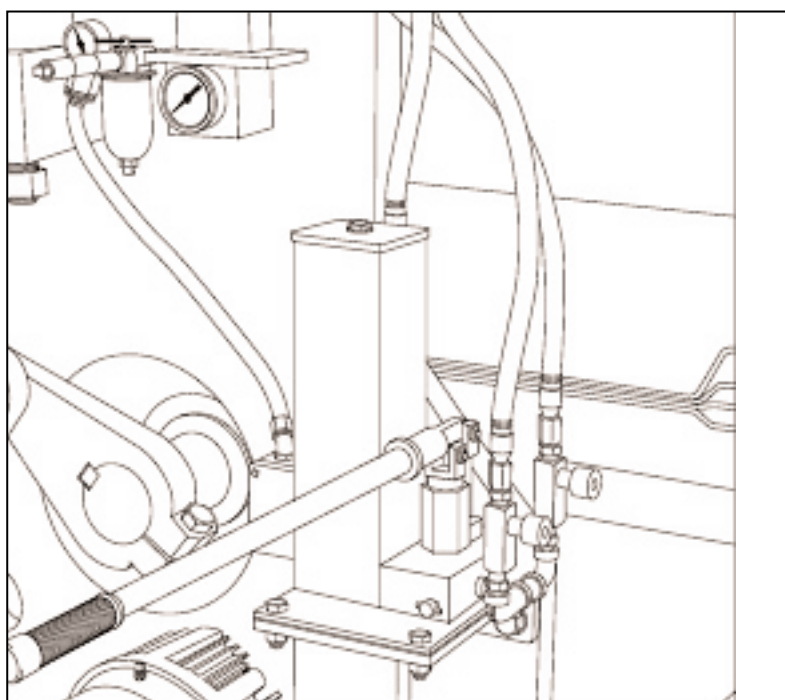

Figure 4.39 HYDRAULIC JACK SYSTEM.
- c. Raise mold throat frame up by using hydraulic jack system (figure 4.39) just high enough to allow all lower spacers to be removed or added at all four corners.